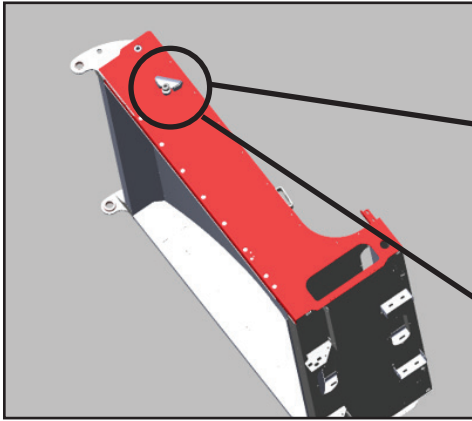
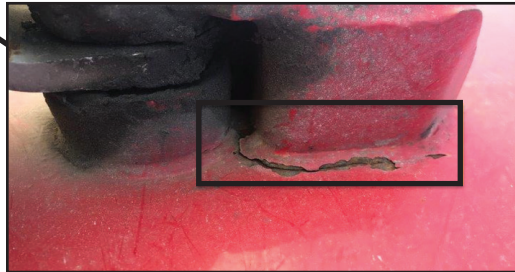

Figure 1
Figure 2
3. Inspect the lug outer weld for fatiguing and weld cracking (Figure 1 and Figure 2).